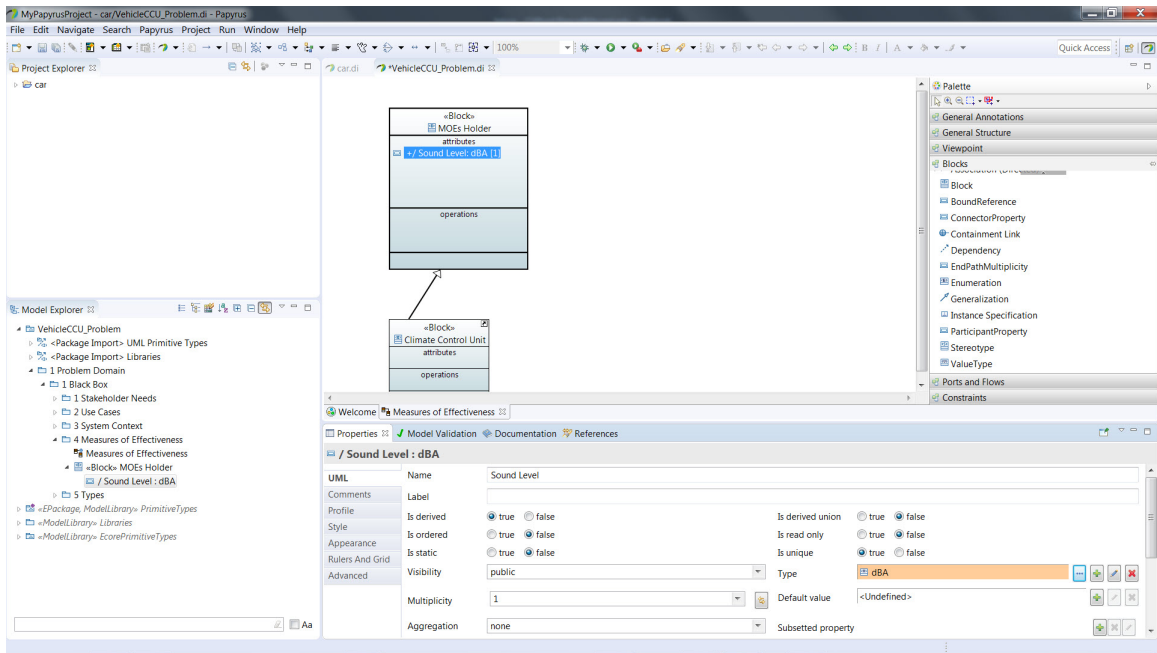

Figure 85: *Sound Level* Attribute Created.
11. Your diagram should look like (figure 85).